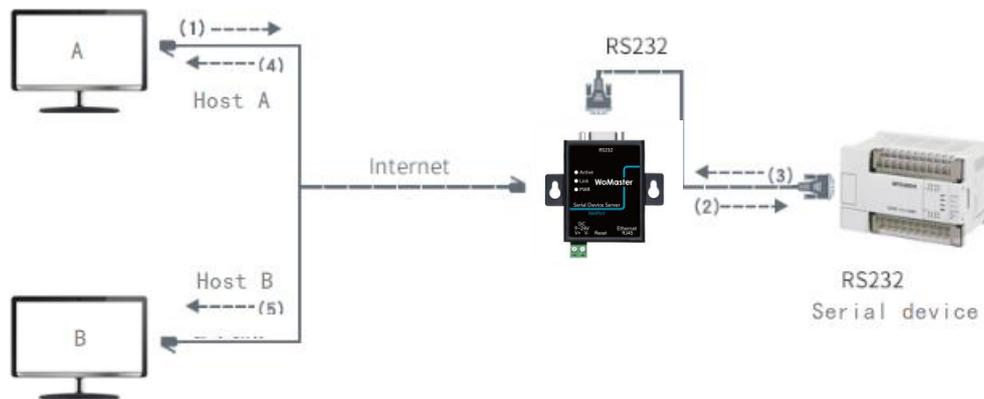

Figure 36 Multi-host function demonstration
As shown in Figure 36, in ordinary mode, when two hosts, host A and host B, are connected to the serial port server at the same time, host A sends (1) instruction, RS232 device receives (2) instruction, RS232 device returns (3) instruction, but the serial port server sends (4) to host A and (5) to host B at the same time. Because host B did not send the query, but it also received the reply instruction (5), host B may generate a communication exception error. In multi-host mode, there will be only instructions (4) and no instructions (5), because the serial server will automatically remember the host that needs to be returned, and only the command will be returned to the most recent communication host, host A queries will only reply to A, host B queries will reply to host B.
As shown in Figure 36, if the serial port device (RTU device) acts as the primary station and the network port device (Modbus TCP device) acts as the secondary station, there are multiple network port secondary devices at the same time. In this case, you can use the serial port server as a client to connect to multiple network ports. For details, see 5.2.2 Connecting a Client to Multiple Servers.
Figure 36 web catalogue